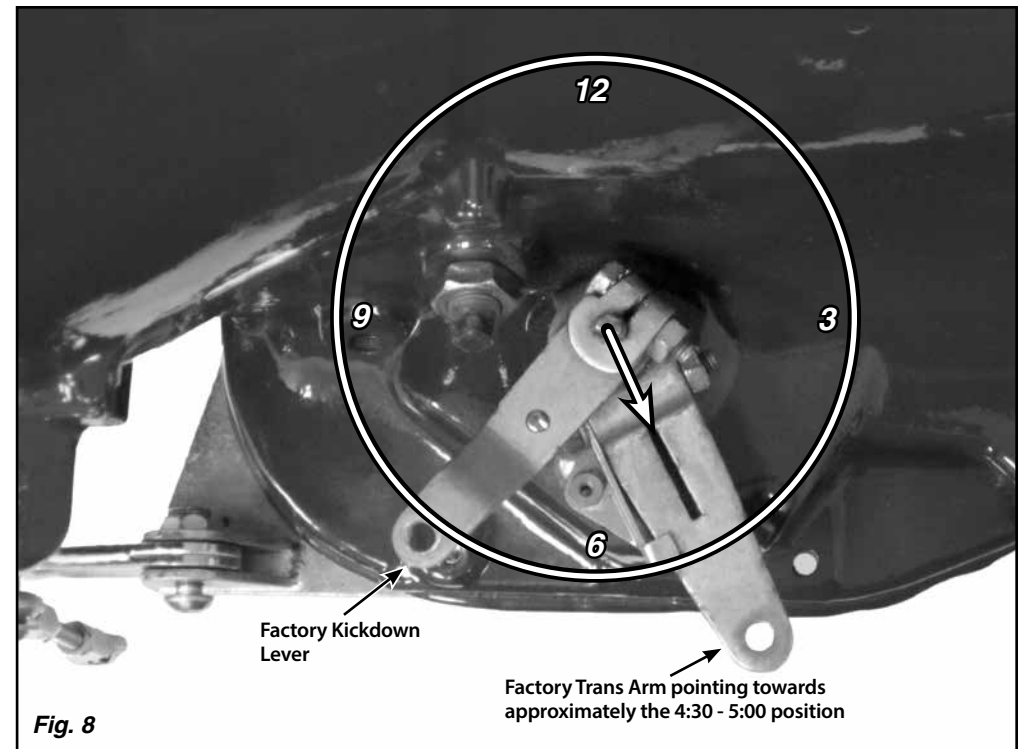

Fig. 8
Step 11: Make sure the transmission is in Park. The factory trans arm should be pointed to the driver side of the vehicle and slightly towards the rear, at approximately the 4:30 to 5:00 position if looking down on it from above, as shown in **Fig. 8**. Connect the rod end on the short threaded rod to your factory trans arm, using the provided 1/4"-28 x 1" button head bolt with flat washer and nylock nut. Adjust the rod ends in or out on the short threaded rod as needed in order to get the linkage arm pointed up at approximately the 1:00 position. If any part of the shifter linkage interferes with the kickdown lever or linkage, you can position the linkage arm a little higher. **If may be necessary to bend or shorten the short threaded rod in order to get the linkage arm in the correct position.**